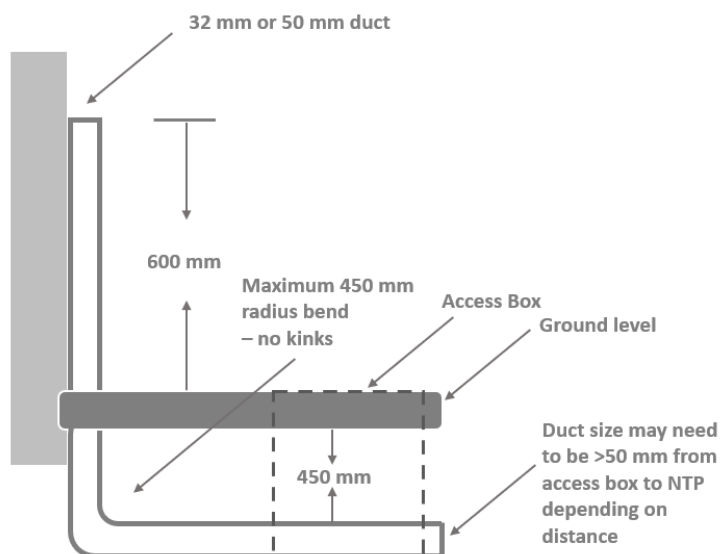

Figure 2: Alternative option for external duct without ETU
- If the duct size used is greater than 50 mm an access box should be located close to the premises and a 32 mm duct extended to the premises (Figure 2).
- The duct must have a removable end cap (or bung) fitted at both ends to prevent ingress of debris in advance of cable installation. (Figure 2)